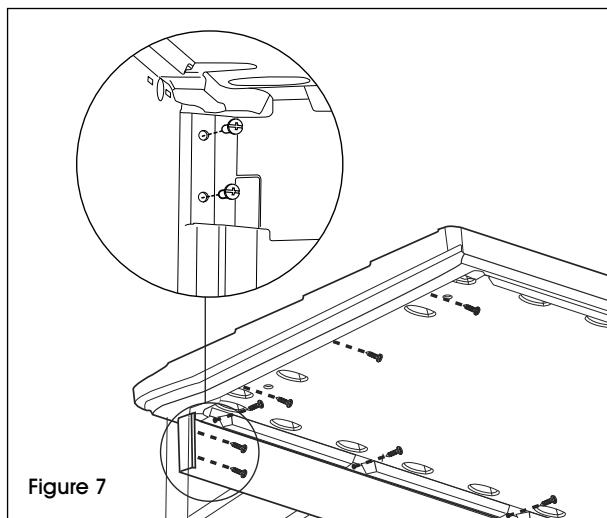

Figure 7
- Secure roof assembly to side panels by inserting 4 screws into dimples on the interior header (See Figure 7) and 10 screws into the dimples around the interior roof perimeter. (See Figure 8)